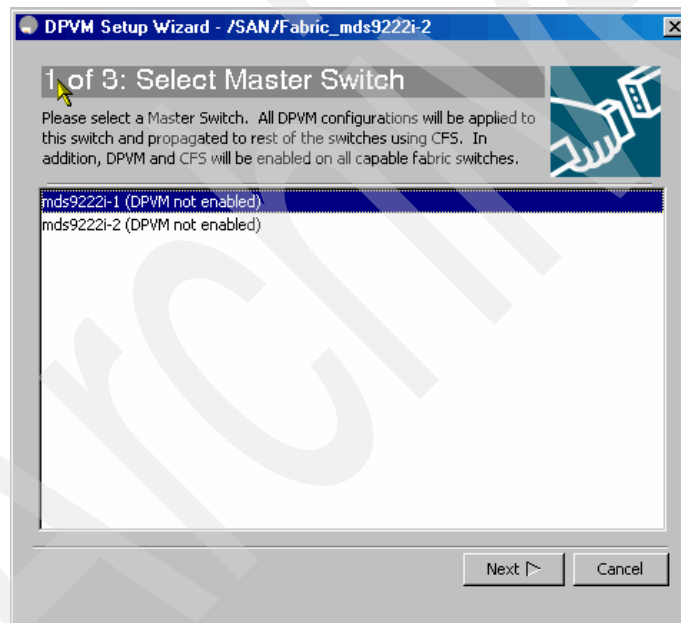

Figure 6-43 Selecting the master switch for DPVM
2. Select the switch that is required to be the master DPVM switch and click **Next**, as shown in Figure 6-43.